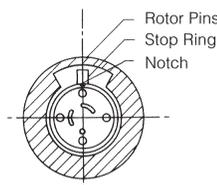

Fig. 10. Correct position of rotor seal (slots face the stator).
b) Line up the rotor seal as shown in Figure 10. The rotor seal slots face the stator.